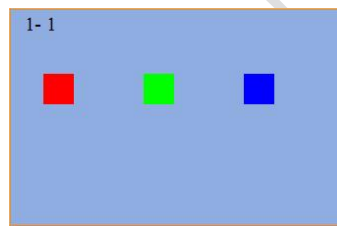

Fig.4-39 Shooting complete
- Once a color ( Red, Green, or Blue) of a partition has been captured, it will be shown on the corresponding partition and the background color of that partition will change to light blue (see Figure 4-39).